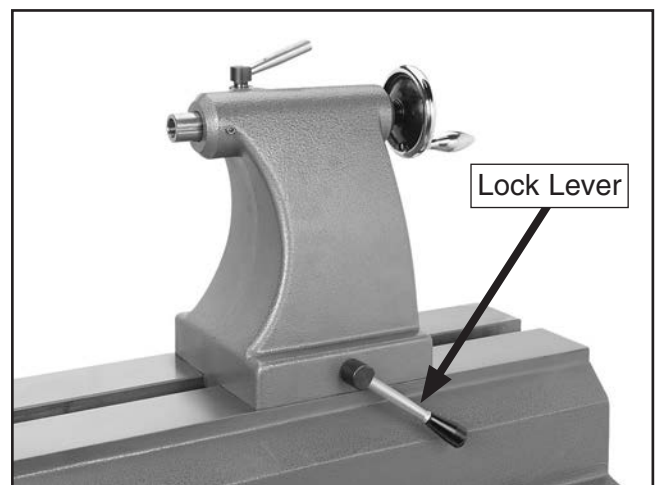

Figure 14. Tailstock lock lever.
1. Loosen the lock lever and move the tailstock to the desired position along the bed (see **Figure 14**).